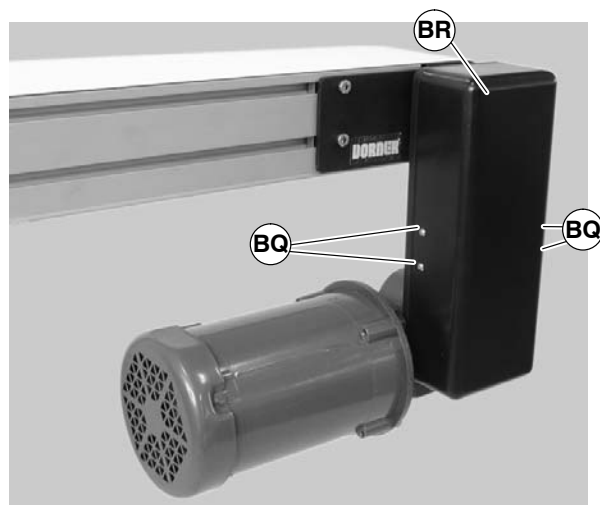

Figure 59
- 2) Remove four (4) screws (BQ of Figure 59) and remove cover (BR).